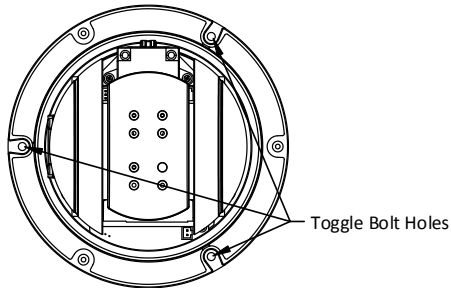

Figure 1-34 Toggle Bolt Holes
- 2). Insert the bolts into the screw holes on the dome as shown in Figure 1-34.